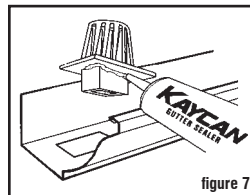

figure 7
Outlet installation. Determine location of outlet (M) and cut hole to size in bottom of gutter (figure 7). Apply a bead of Kaycan gutter sealer around flange of outlet and press into place. Apply a bead of sealer along the inside edges of all joints.